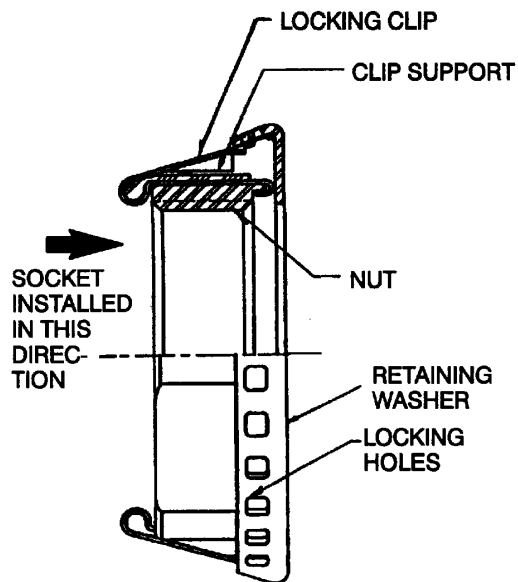

Figure 16 Axilok Unitized Self-Locking Wheel Bearing Adjusting Nut
Refer to Figure 16.
8. Remove the socket from the Axilok allowing the spring clips to release and engage into the holes in the retaining washer. If the tabs of the locking clips do not line up with the retaining washer holes, rotate the Axilok counterclockwise until the locking clips engage into locking holes (Figure 16).